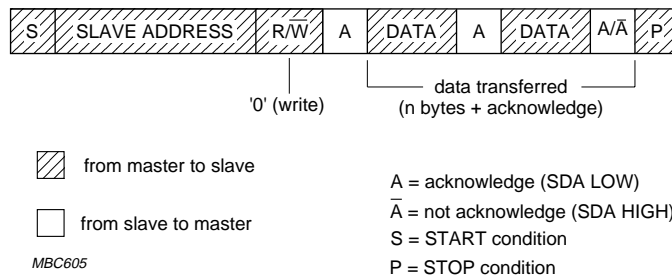

Fig.11 A master-transmitter addressing a slave receiver with a 7-bit address. The transfer direction is not changed.
- Master-transmitter transmits to slave-receiver. The transfer direction is not changed (see Fig.11).